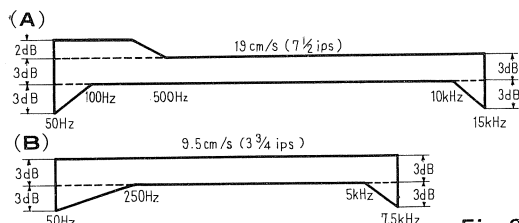

Fig. 6
2. Response deviation should be within the range shown in Fig. 6.